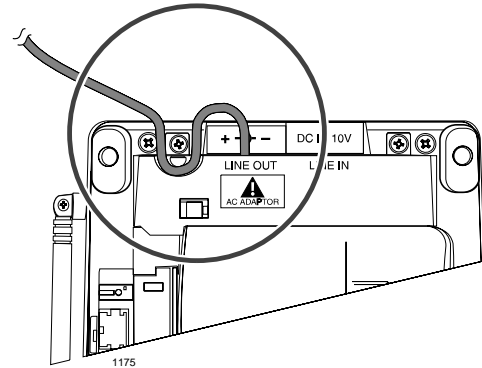

Figure 9-19 Line Out Cord
4. Wrap the power cord around the notch on the bottom of the base unit (see Figure 9-19).